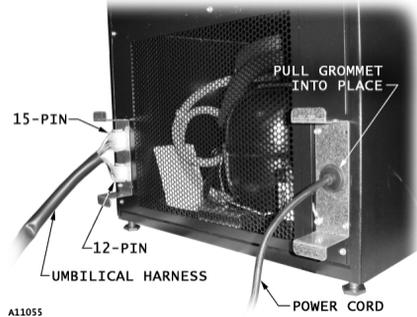

Figure 4.4. Connect to Satellite Food Vendor
2. Find the umbilical harness inside the Satellite Food Vendor. Connect the 12-pin and 15-pin connectors to their respective sockets on the bottom back of the Satellite Food Vendor. See **Figure 4.4**.